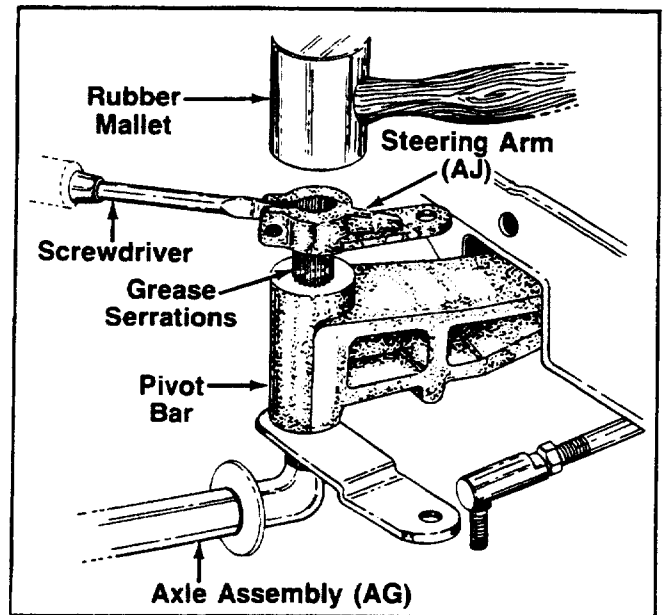

FIGURE 27.
27. Assemble the steering arm (AJ) over serrated end of axle. **Note: The steering arm must be straight in line with the axle and 90° from the wheel.** See figures 27 and 28. With a large screwdriver pry slot in open end of steering arm (AJ) to allow serrations in steering arm to be started over serrated axle end. Tap on steering arm with a rubber mallet, while applying pressure with the screwdriver, until steering arm is down against the pivot bar. See figure 27.